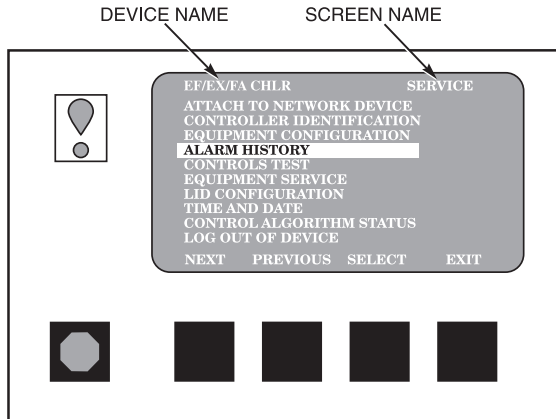

Fig. 12 — LID Service Screen
- When not displaying the default screen, the upper right-hand corner of the LID displays the name of the screen that you have entered (Fig. 12).